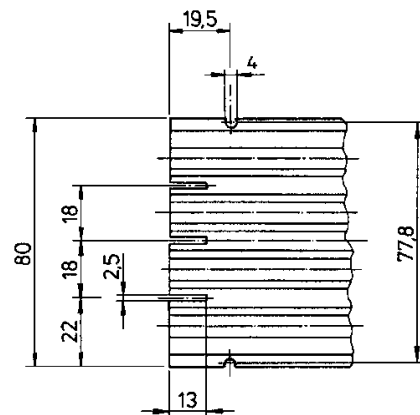

Fig. 4: Dimensions for slots at the end of the conductor rail
- Saw the slots according to the sketch (see Fig. 4).
- Cut slots according to sketch (see Fig. 4).